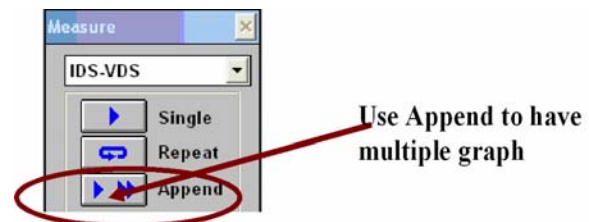
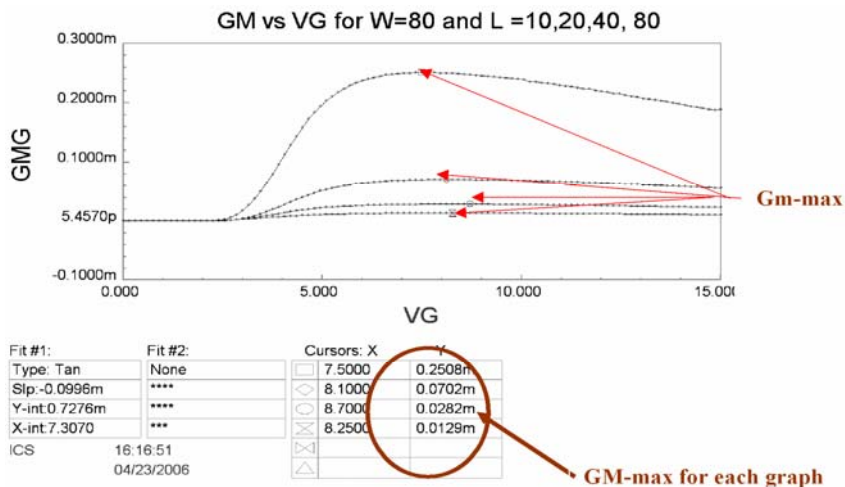

Figure 23: Measure window, click on Append
Figure 24: GM Vs VG curves on the same graph of transistors with the same widths but different lengths.
3. This time use Append in the Measure window seen in Figure 23, so that all the curves will be shown on one graph, like Figure 24.
4. Use Cursors to find the GM (max) for each curve, see Figure 24.
5. The values are shown in a table below the graph in Figure 24.